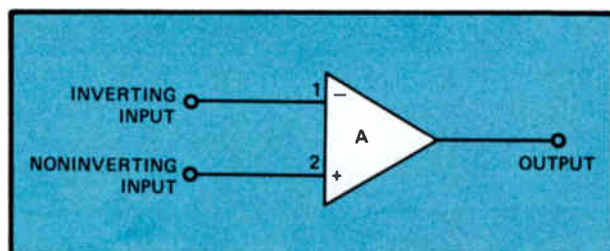

Figure 6. Operational amplifier symbol.
The symbol for an op amp is shown in Fig.6. Input 1, marked with a $-$ sign, is the inverting input and input 2, marked with a $+$ sign, is the noninverting input. The letter A stands for the gain of the op amp. If we apply an input signal to the amplifier, an output signal will be generated. The input signal will be amplified by an amount equal to the gain A of the amplifier. If the input signal is very small, it will appear greatly enlarged at the output because of the high gain.
- 7 In Fig.6, what does the letter A in the center of the triangle indicate?